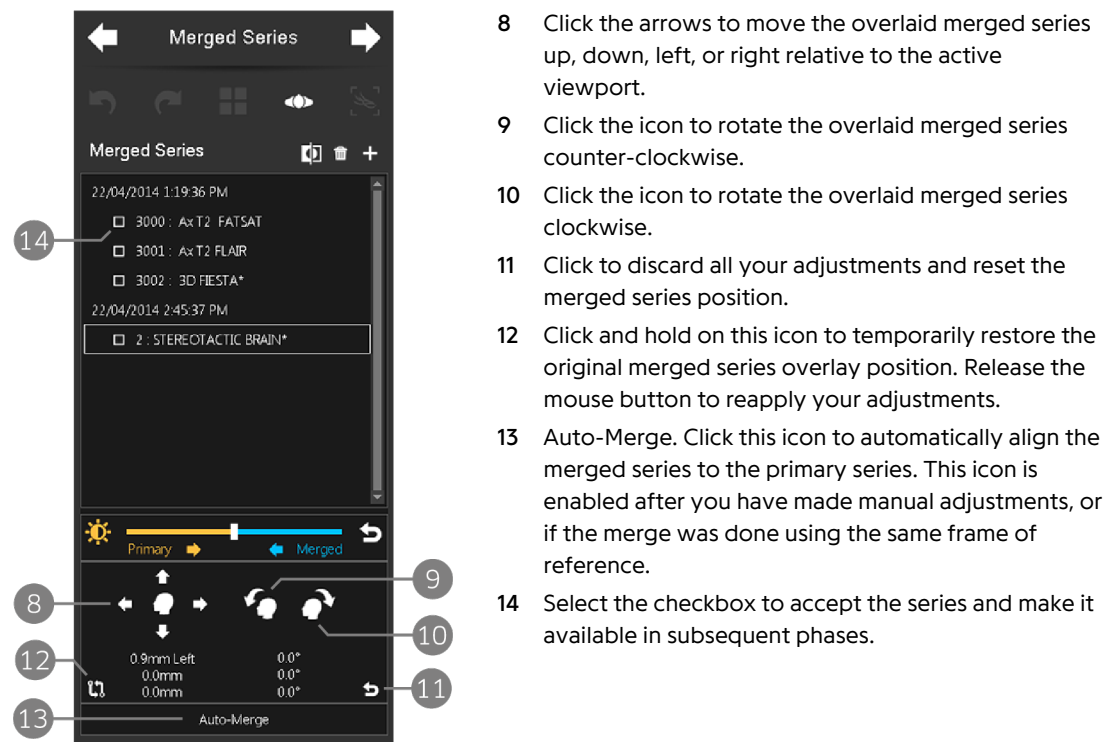

Figure 47 Merged Series phase panel, continued
- Manually adjust the alignment. Use the alignment controls (items 8, 9, and 10 in Figure 47 on page 65) to move or rotate the merged series.
- Automatically adjust the alignment. Click the **Auto-Merge** button (item 13 in Figure 47 on page 65) to automatically adjust the alignment of the merged series to the primary series.
5. Select the checkbox (item 14 in Figure 47 on page 65) to accept the series and make it available in subsequent phases.